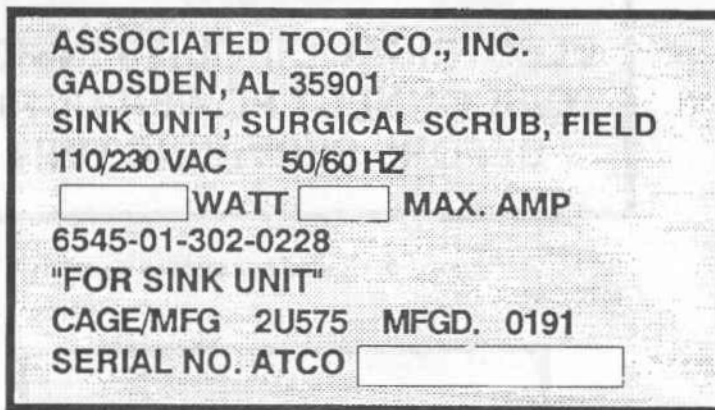

Figure 1-2. Case data plate.
(1) Case.
- (a) Identification information as depicted on the case data plate is shown in figure 1-2.